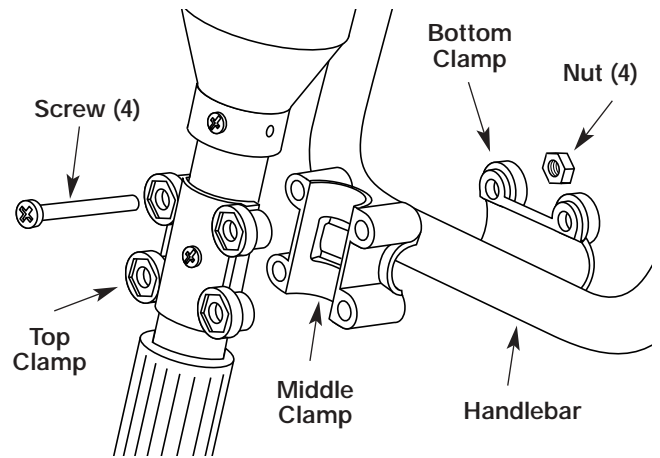

Figure 5
2. Place the handlebar between the bottom and middle clamp pieces. See Figure 5.